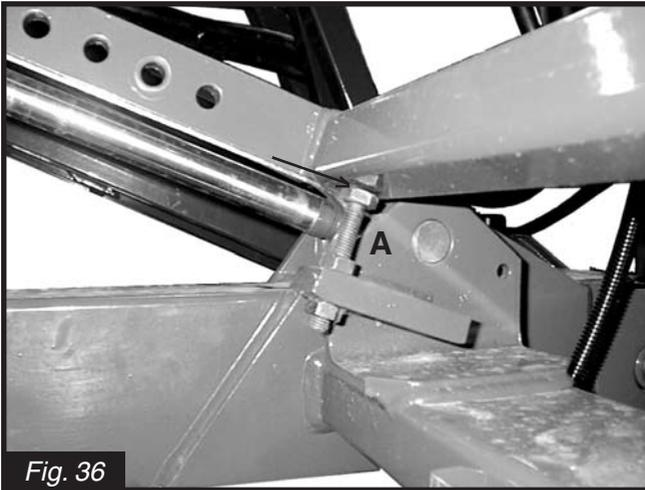

Fig. 36
When the boom is folded, resting on the front transport supports, and rear transport lock arm is engaged: The head of bolt (A)(Fig. 36) should be touching the rear transport lock arm. Adjust bolt if necessary.